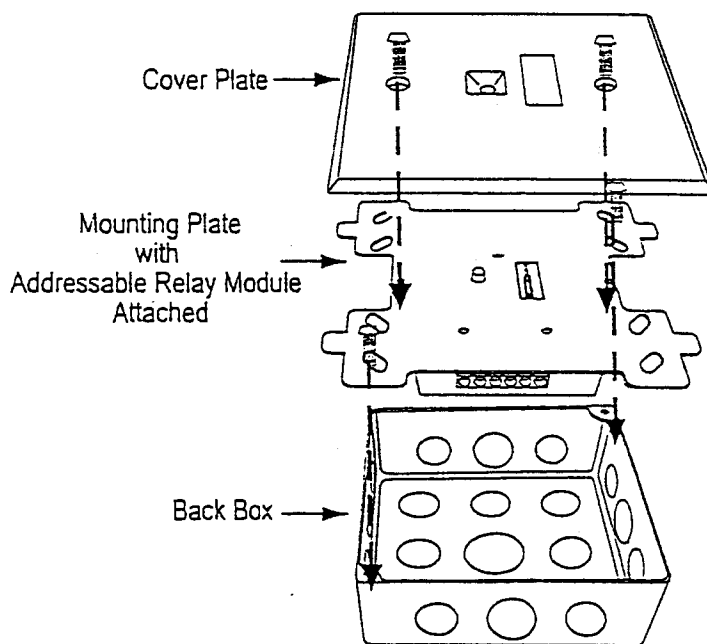

Figure 6: Typical D328A Installation
- After wiring the module to the FACP and connecting the initiating device circuitry as shown in Figure 5, attach the D328A plate to the back box as shown in Figure 6. Install the cover plate.